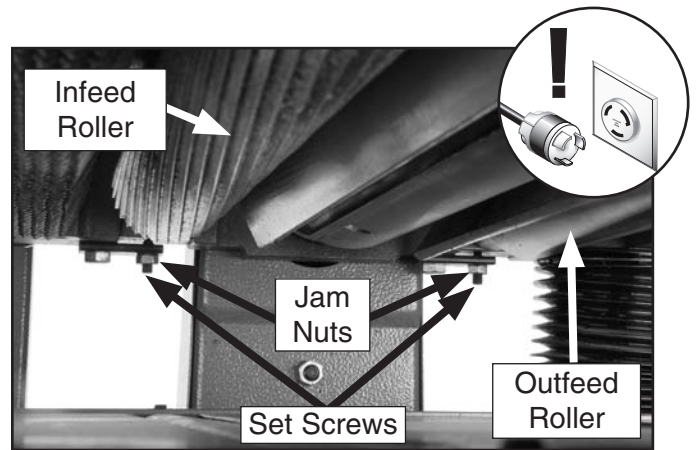
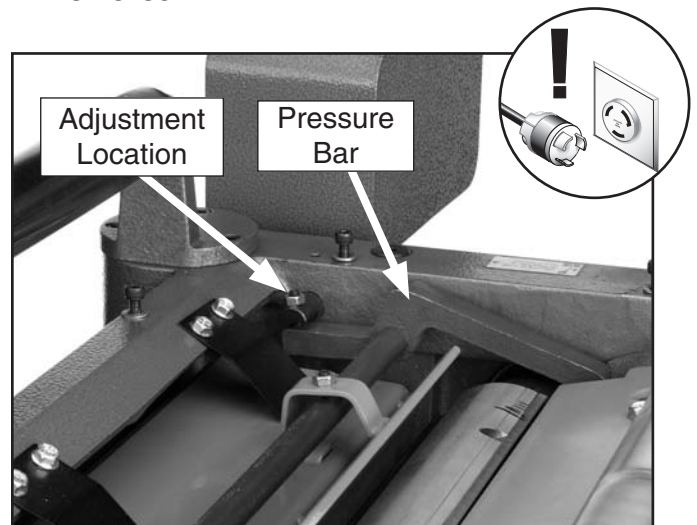
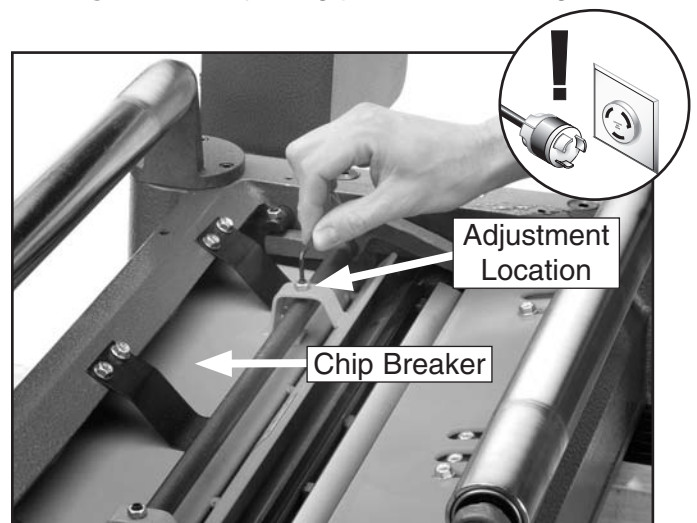

Figure 33. Infeed and outfeed height adjustment controls (one side shown).
Figure 34. Adjusting pressure bar height.
Figure 35. Adjusting chip breaker height.
7. Adjust the height of the infeed roller on the same side as the Rotacator to the specification given at the beginning of this procedure, using the zero setting of the Rotacator as a reference point. **Figure 33** shows the jam nut and set screw for adjusting the roller height.
10. Using the same zeroed reference on the Rotacator, adjust the height of the chip breaker, pressure bar, and outfeed roller (**Figure 33**) to their given specifications. The adjustment controls for each are shown in **Figures 34 & 35**.
8. Loosen the infeed roller adjustment jam nuts (**Figure 33**) and turn the adjustment set screws on each end to raise the feed roller above the wood block (if necessary), then bring it back down so it just touches the wood block on both sides.
10. Without moving the table, adjust the chip breaker (**Figure 35**), pressure bar (**Figure 34**), and outfeed roller (**Figure 33**) in the same manner, using the wood blocks as your reference point.